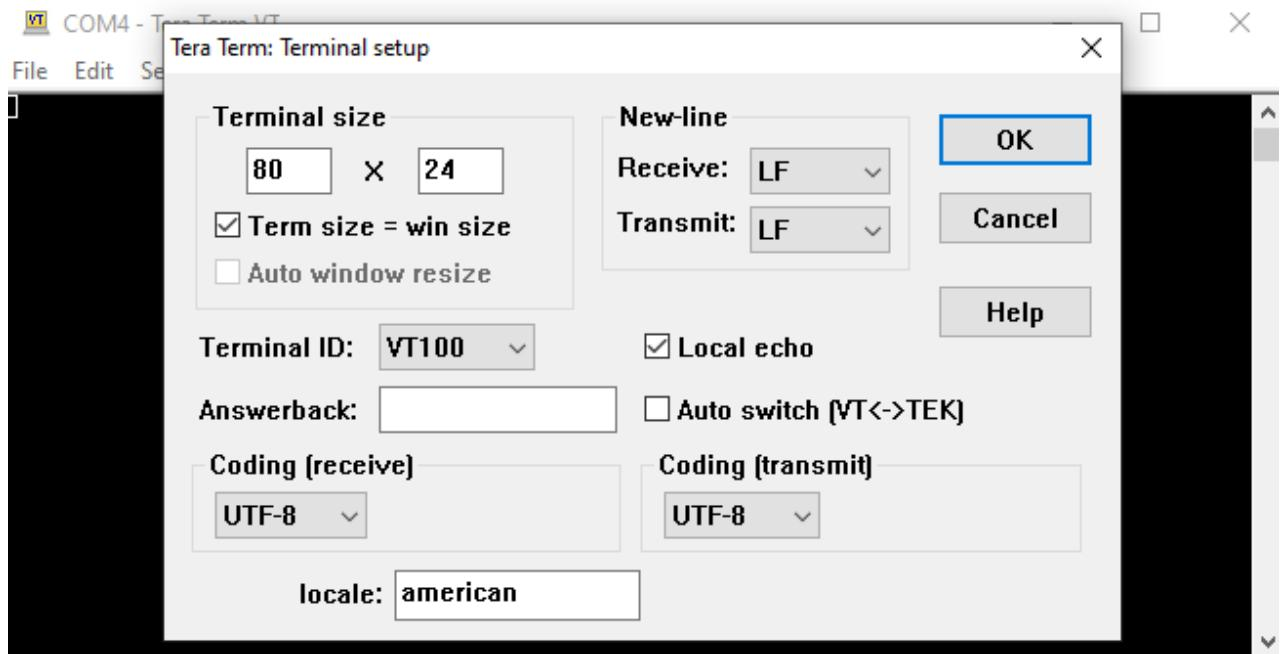

Figure 8.1: Tera Term setup for local echo with newlines (aka line feeds [LF]).
**Tera Term** Open the Setup > Terminal... menu, check Local echo, and set the New-line setting to LF for transmit and receive. See Figure 8.1.